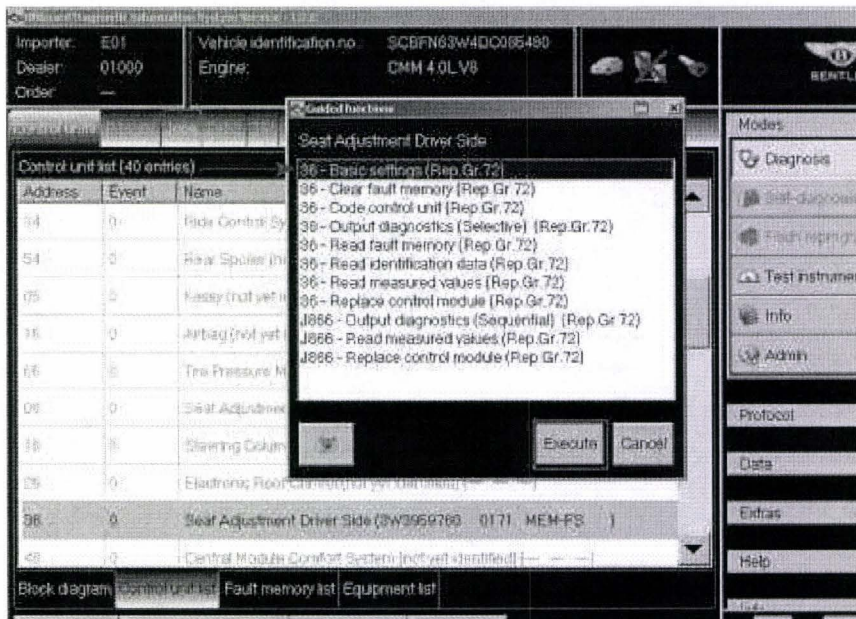

Figure 3
10. Select Basic settings then *Execute* (see Figure 3)